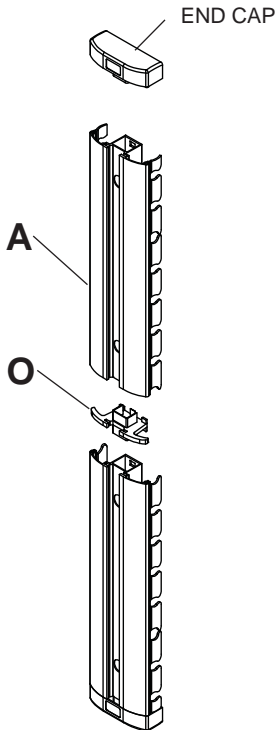
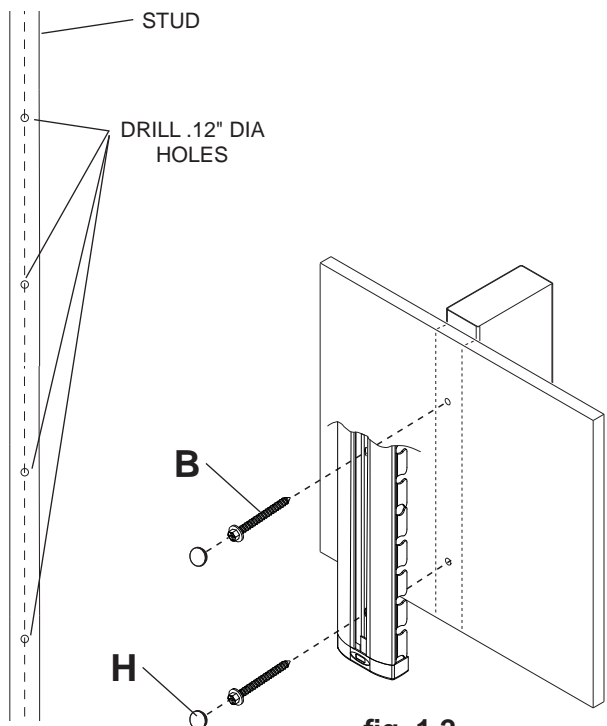

fig. 1.1
fig. 1.2
- 1 Remove end cap with bubble level from column (A). Assemble columns (A) and clip (O) as shown in figure 1.1. The columns can be mounted to a single stud. Use a stud finder to locate the edges of the stud. Use of an edge-to-edge stud finder is highly recommended. Based on their edges, draw a vertical line down the stud's center. Place columns (A) on wall as a template. Level column and mark the center of the mounting holes as shown in figure 1.1. Make sure that the center mounting holes are on the stud center lines. Drill four mounting holes .12" (3mm) dia. by 2" (51mm) deep. Secure column (A) with four M5 X 44mm wood screws (B) as shown in figure 1.2.
- 1** Remove end cap with bubble level from column (A). Assemble columns (A) and clip (O) as shown in figure 1.1. Make sure that columns (A) are level, use them as a template to mark four mounting holes. Drill four 5/16" (8 mm) dia. holes to a minimum depth of 2" (51 mm). Insert anchors (C) in holes flush with wall. Place columns (A) over anchors and secure with four M5 X 44mm wood screws (B).
Tighten fasteners then cover M5 X 44mm wood screws (B) with screw covers (H) as shown in figure 1.2.